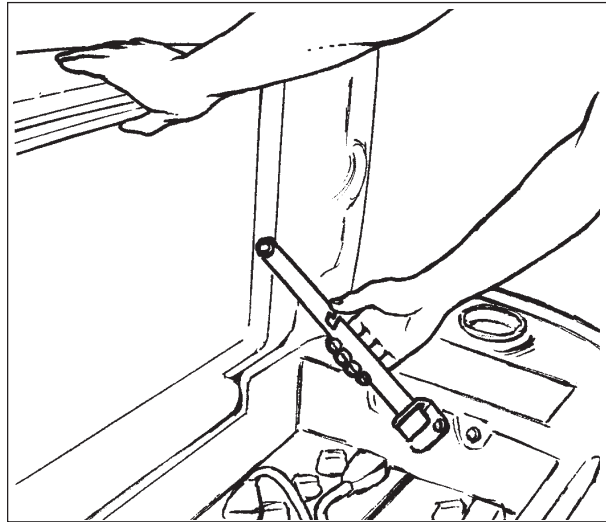

Figure 13A
3. Before charging the batteries the battery compartment needs to be vented. To vent compartment, tip up the recovery tank until it locks in either of the two open positions. See figure 13A. To close the tank, pull up on the latch arm and then slowly lower the tank to the closed position.